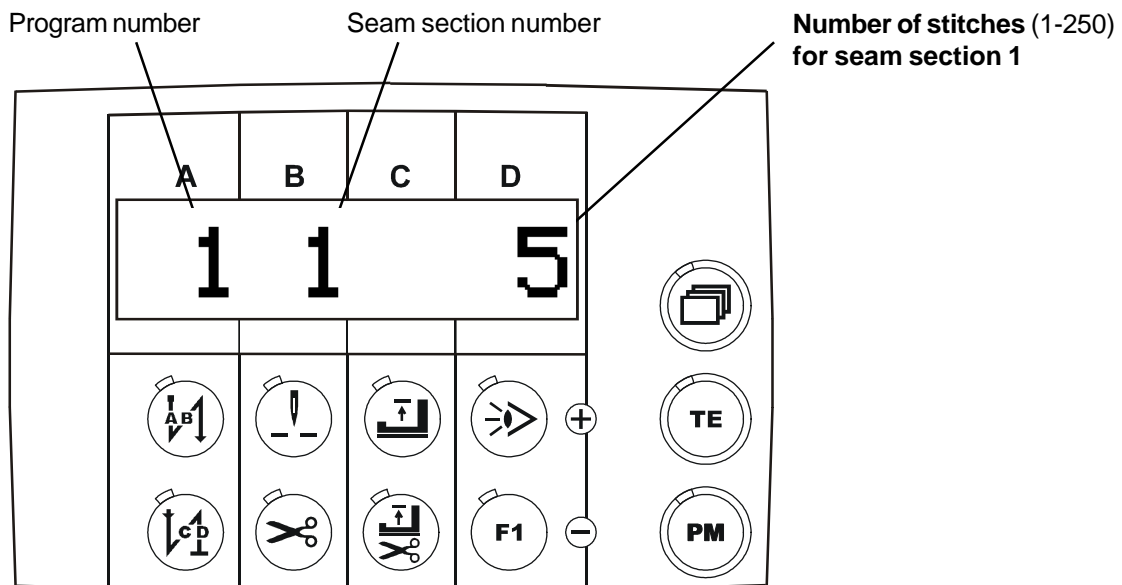

Fig. 8.1
- 1.2 Press the paging key until the display **Fig. 8.1** appears